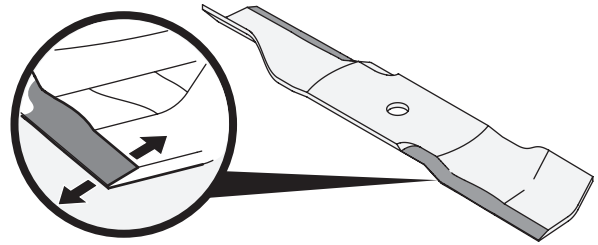

Figure 39
3. To properly sharpen the cutting blades, remove equal amounts of metal from both ends of the blades along the cutting edges, parallel to the trailing edge, at a 25°-30° angle. Always grind each cutting blade edge equally to maintain proper blade balance. See Figure 39.